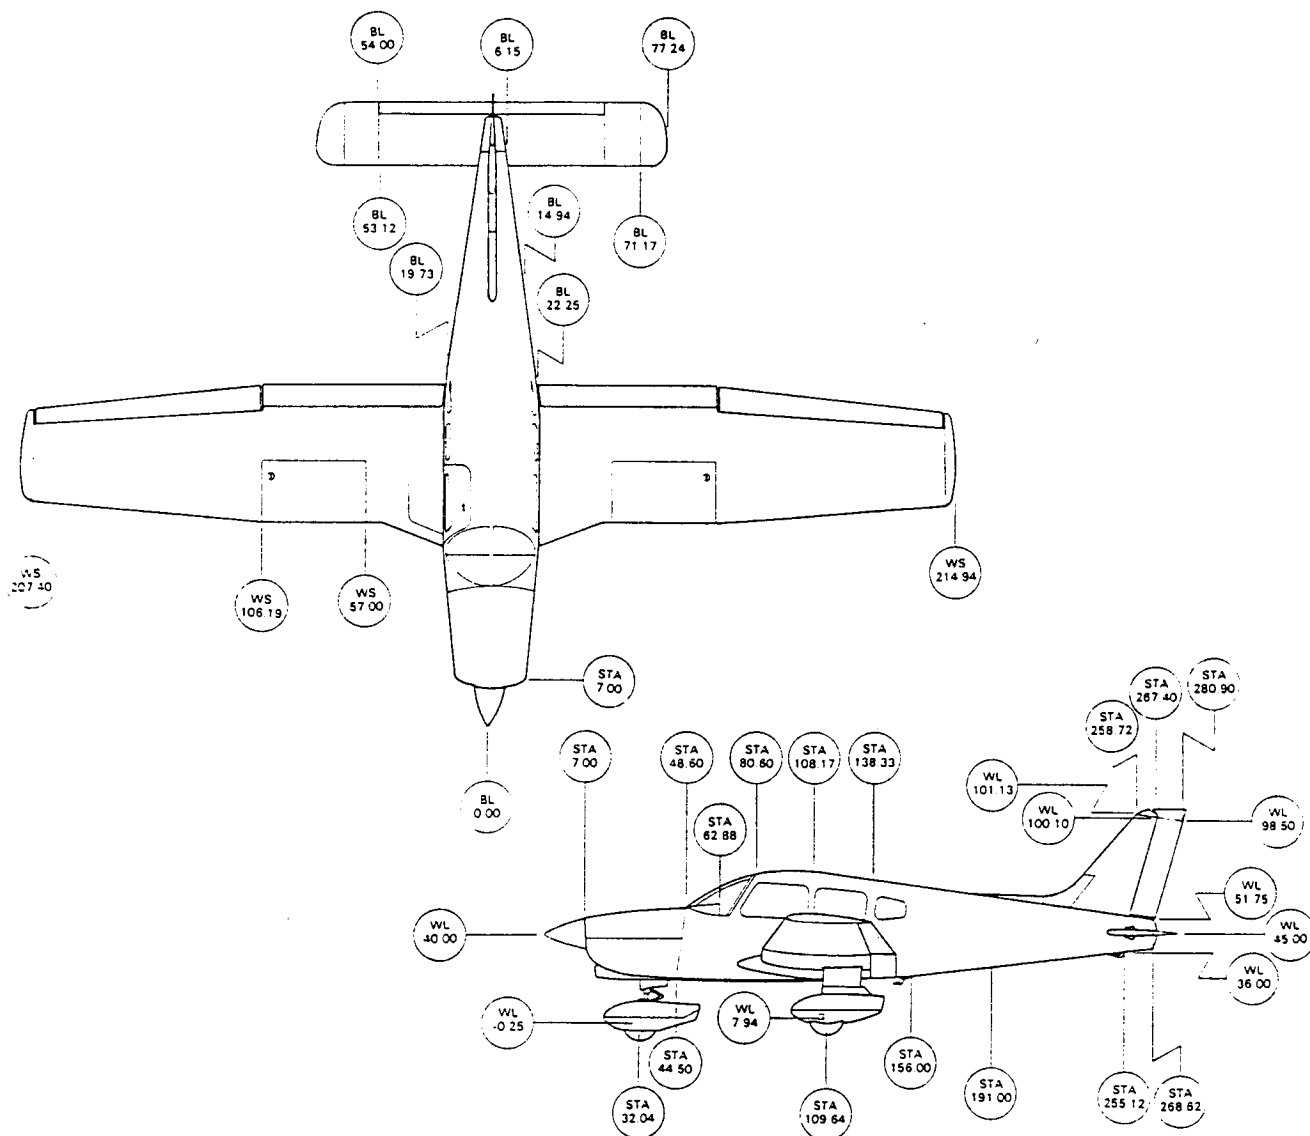

Figure 6-2. Station Reference Lines
To facilitate location of various components which require maintenance and servicing, a method utilizing fuselage station (F. S.), wing station or buttock line (BL), and water line (WL) is frequently used in this manual. (Refer to figure 6-2.) Fuselage stations, buttock lines, and water lines are reference points measured in inches in a vertical or horizontal direction from a given reference line. Fuselage station 0 is 78.4 inches forward of wing leading edge or 44.5 inches forward of lower edge of firewall. Station 0 BL of wing and stabilator is centerline of airplane. Station 0 WL of fuselage, vertical stabilizer, and rudder is 20.5 inches below the cabin floor as measured at rear wing spar with airplane level. The reference datum is located 78.4 inches forward of wing leading edge at the intersection of the straight and tapered section.